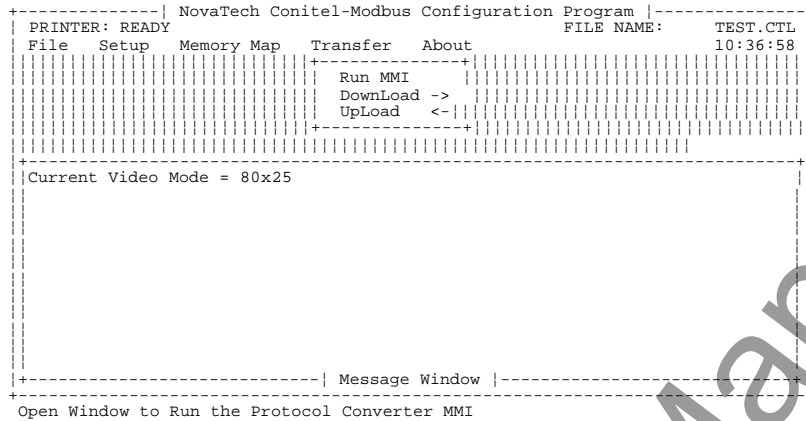

Figure 13 – Transfer And Debug Configuration Screen
appear on the LED. Figure 13 illustrates the menu selection for download selection.
16. The ORION Unit is now configured for communication to both the Conitel Host and the Modbus IED. When the Conitel Host polls the ORION unit, the Red TX and RX LED's shall illuminate on a Host Transmission and ORION Response. To observe the communication strings sent/received by the ORION, by selecting the "RUN MMI" menu item as illustrated in Figure 13, shall reveal the following menu items displayed upon the PC screen.